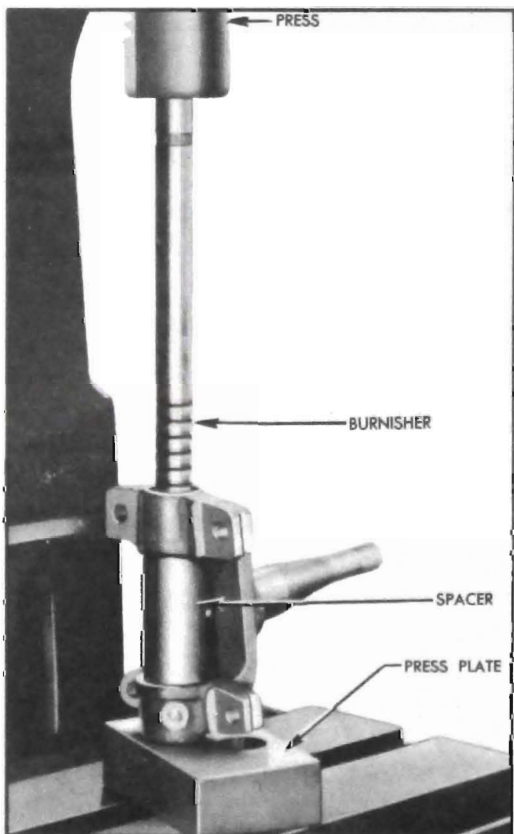

Figure 6-18—Burnishing Steering Knuckle Bushings
3. Burnish bushings, using Burnisher J 722-1, Spacer J 722-2, and Press Plate J 1649. See figure 6-18. The burnisher expands the bushings tightly in place and sizes the holes for reaming.